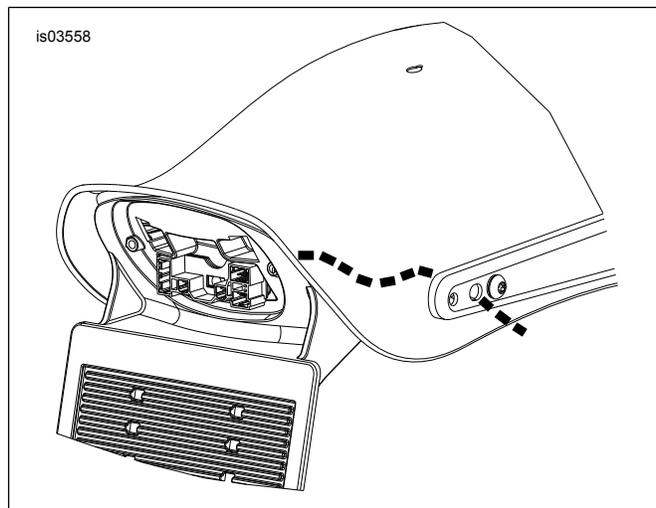
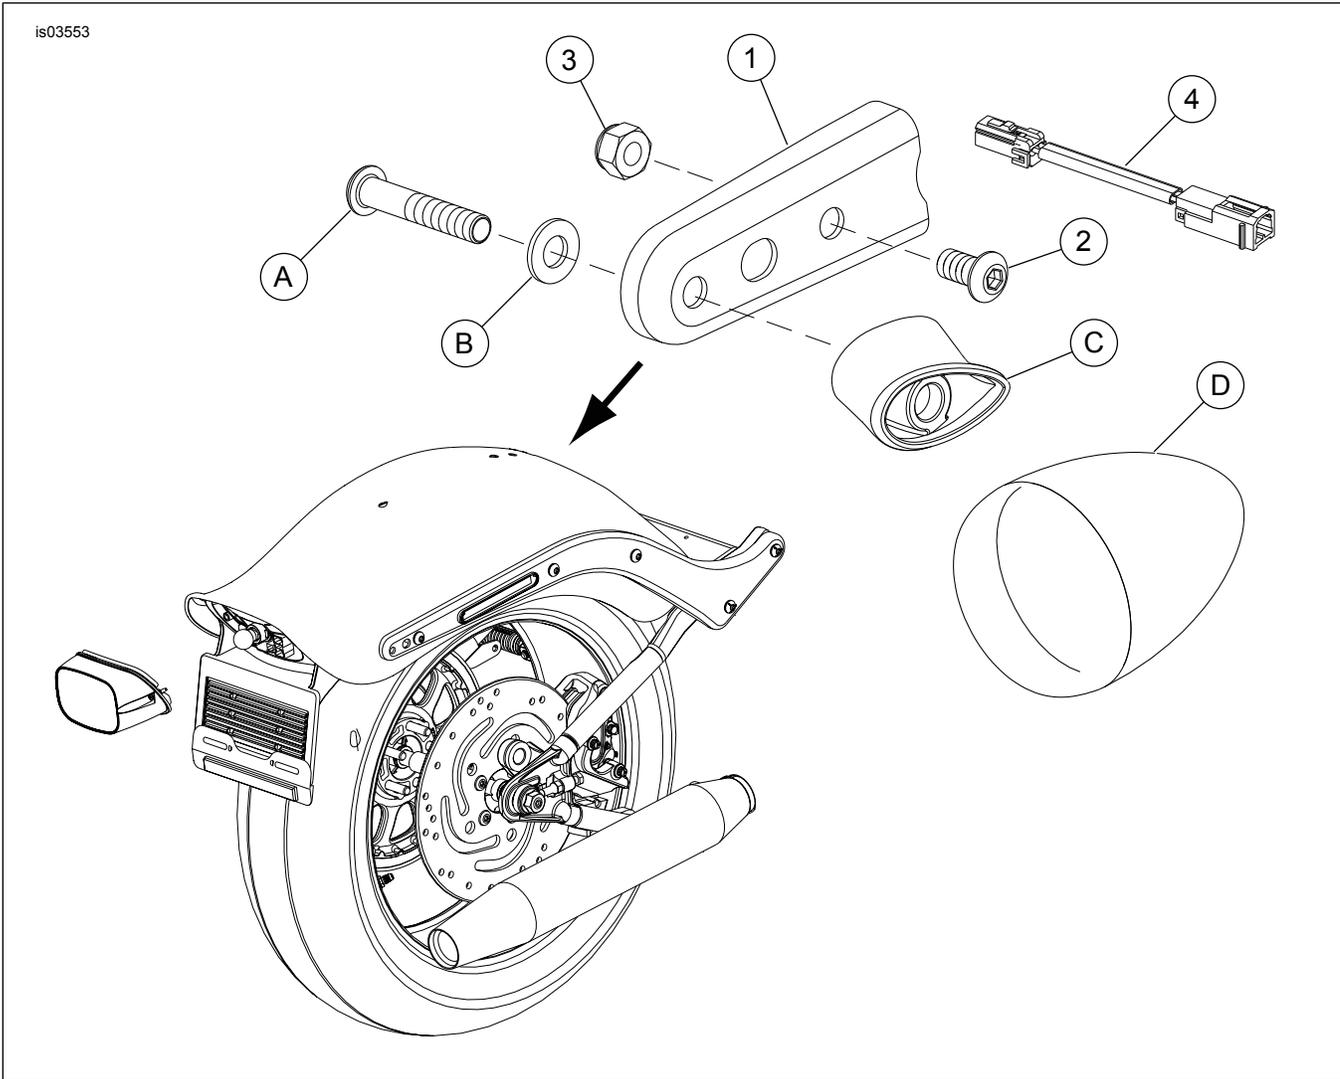

Figure 6. Route Wiring Through Rear Fender and Support
Figure 8. Service Parts: Softail Turn Signal Relocation Kit
See Figure 8 and Table 1.
4. See Figure 8. Remove stock screw (A) and washer (B) from turn signal mount (C).
5. Pull turn signal (D) and turn signal mount away from fender support.
6. See Figure 6. Remove turn signal and wires from vehicle by routing turn signal wiring and connector through holes in rear fender and fender support. Gently guide wires through holes to ensure they do not get damaged.
2. See Figure 8. Insert stock screw (A) and washer (B) through rear hole of relocation bracket (1) and turn signal mount (C).
3. Thread screw (A) into turn signal (D). Tighten to 12-16 ft-lbs (16.3-21.7 Nm).
4. Align relocation bracket (1) with rear of fender support and install with screw (2) and nut (3) from kit. Tighten nut to 12-16 ft-lbs (16.3-21.7 Nm).
6. See Figure 8. Connect pin housing of harness extension (4) into turn signal connector. Then socket housing of harness extension into appropriate connector in circuit board.